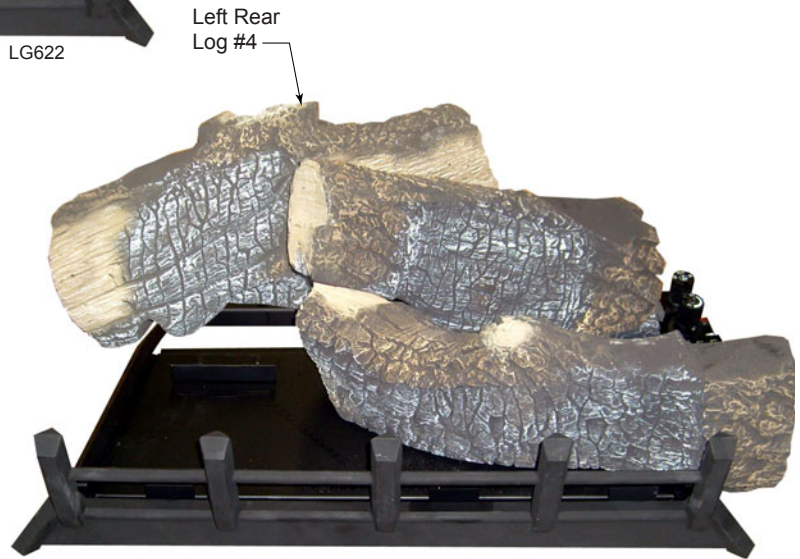

Figure 23
- 4. Place left rear log (#4) on pin located on rear support bracket on left side and left grate bar. *Figure 23*